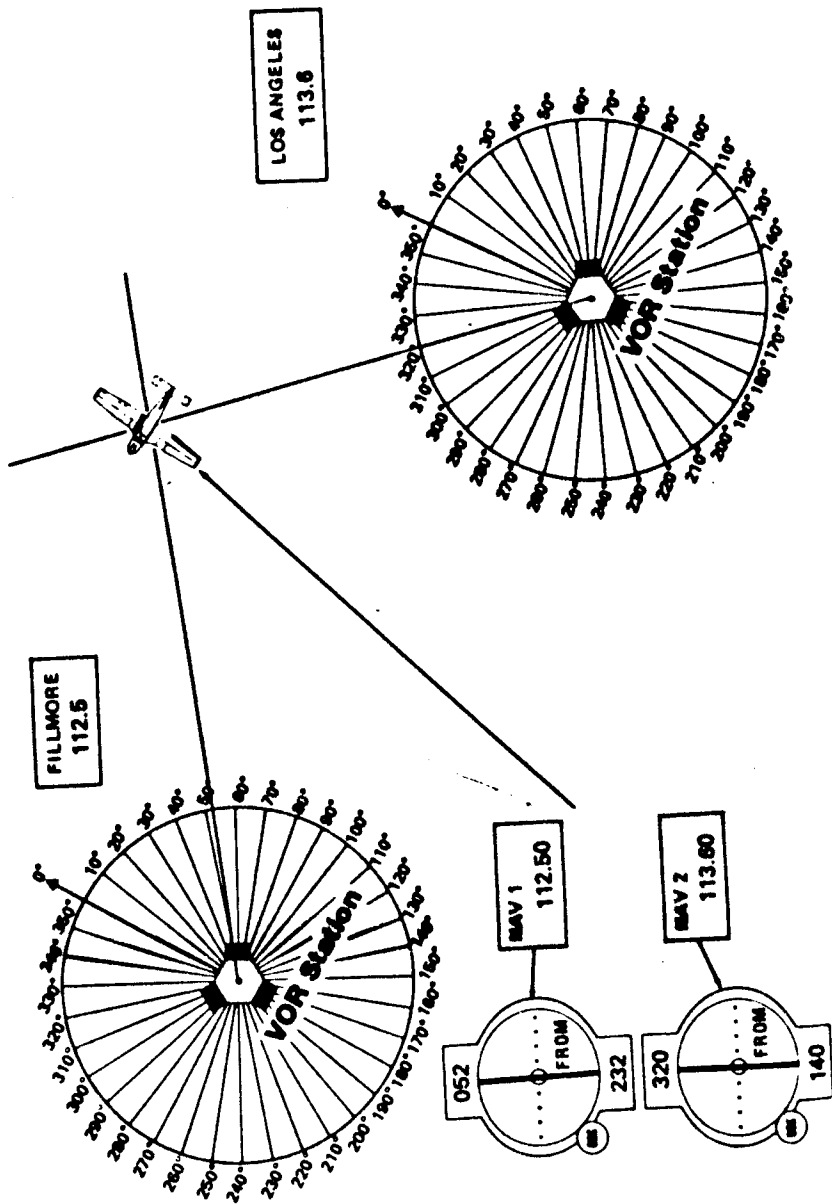

Figure 15. VOR Crosschecking
- Look at your navigation chart and draw lines down the radials of the two VORs. The intersection of the lines is your position (see Fig. 15).